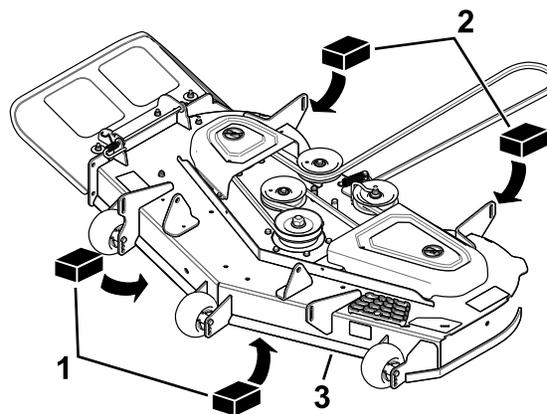

Figure 65
3. Place 2 blocks, each having a thickness of 6.6 cm (2-5/8 inches), under each side of the front edge of the deck but not under the anti-scalp roller brackets (Figure 65).
4. Place 2 blocks, each having a thickness of 7.3 cm (2-7/8 inches), under the rear edge of the cutting deck skirt, 1 on each side of the cutting deck (Figure 65).